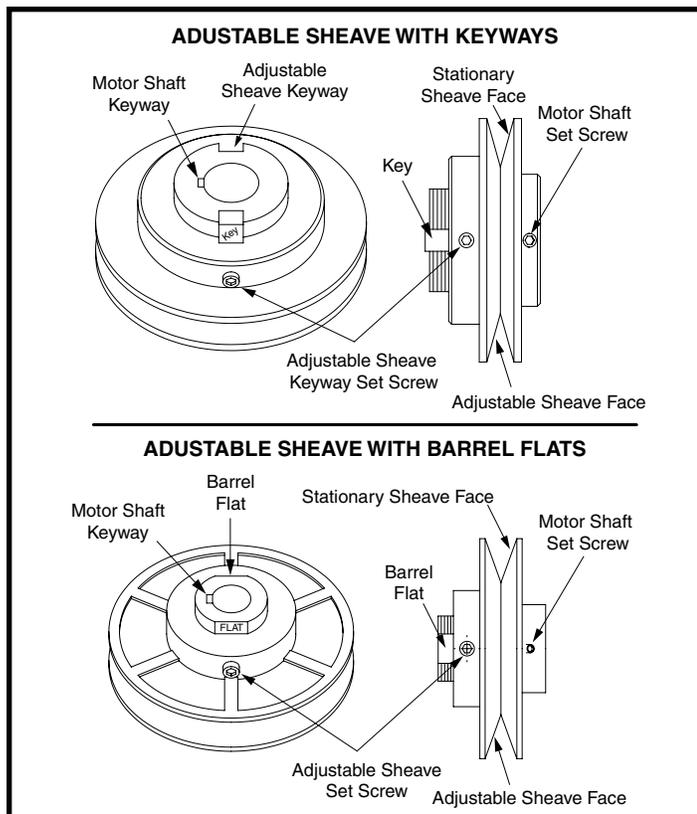

Figure 3. Adjustable Sheaves with Keyways or Barrel Flats
2. Mount all sheaves on the motor or driving shaft with the end containing the motor shaft set screw toward the motor. **NOTE:** For single groove sheaves with keyways (Figure 3), always make sure the motor sheave is fully installed onto the motor shaft.
4. Sheaves with Keyways: Loosen keyway set screw in adjustable sheave and pull out the external key. **NOTE:** The end of the key projects a small amount to provide a gripping surface for removing. See Figure 3. Sheaves with Barrel Flats: Loosen sheave set screw in adjustable sheave until adjustable flange rotates freely.